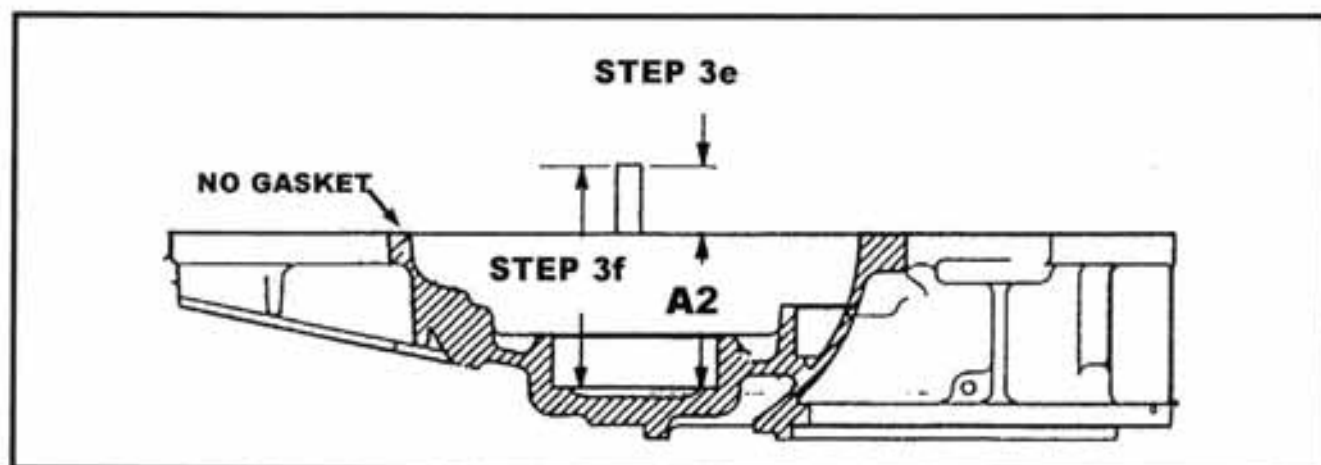

Figure 1-4 Cover cut away
3. Measure the distance from the cover gasket surface (do not use a gasket to make this measurement) to the bearing cup seat in the cover as shown in figure 1-4.